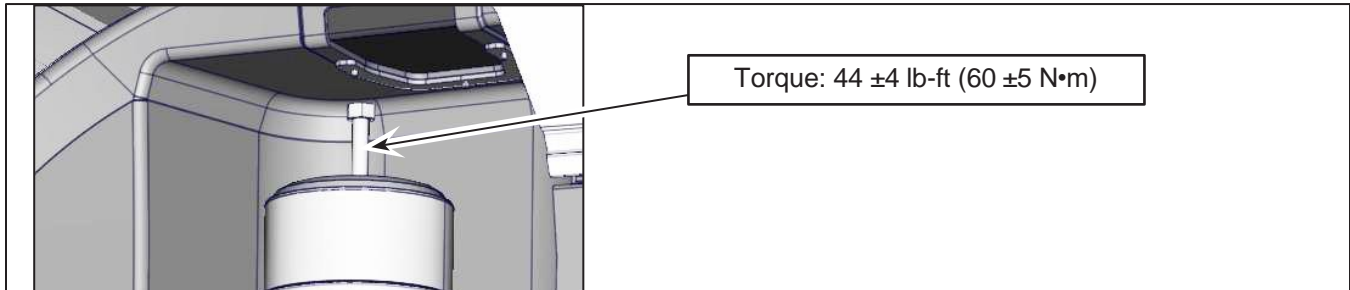

Figure 4 - Screw the Release Bolt
- 2.11. Tighten the release bolt of the new brake chamber using a **hand wrench** to a torque of 44 ± 4 lb-ft (60 ± 5 N•m) (Figure 4). Apply torque seal.